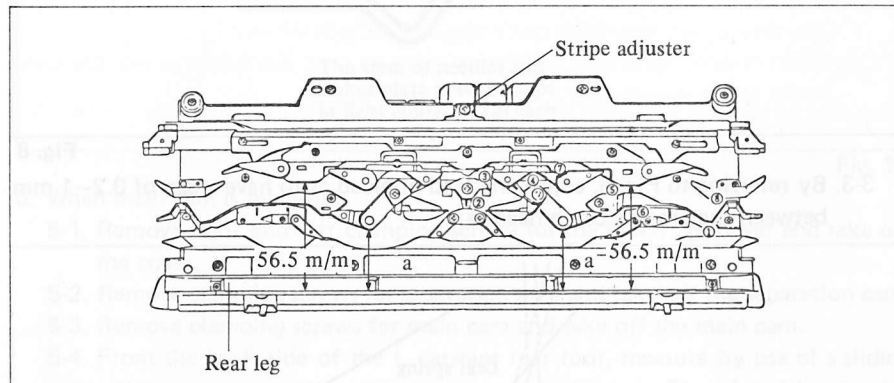

Fig. 4
Hint: When the stitch dial is set at 5, the length at the stitch cam: 32.5 mm. (Fig. 4).
1. Loosen the right and left guide cam A clamp screws and the plate clamp nut. Clamp again after adjusting the distance between guide cam A and the carriage rear leg to 56.5 mm. (Fig. 4).